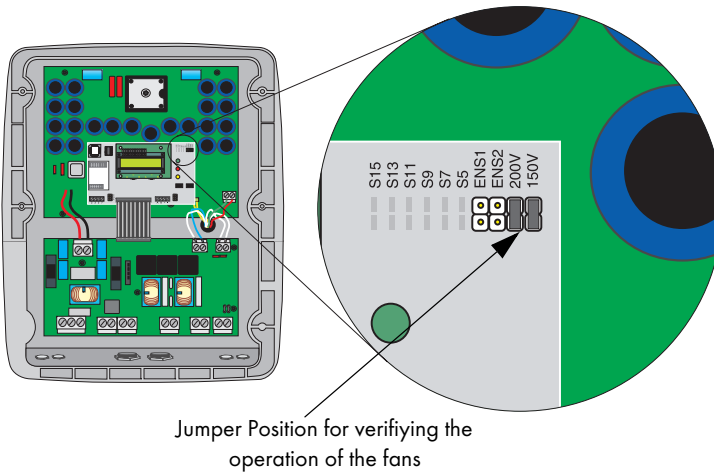

Figure 9-1 : Jumper Position for Fan Test
- Once the LED's are off, remove the cover and set the jumpers as shown in Figure 9-1.